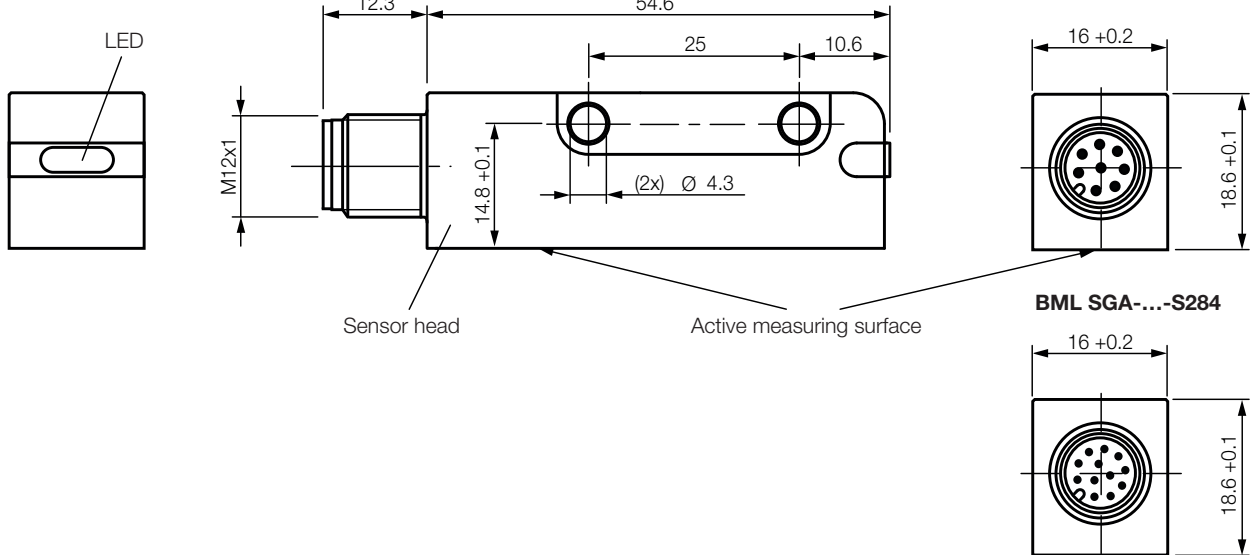
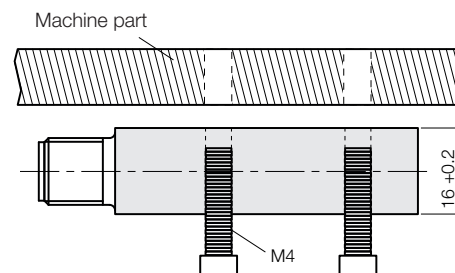
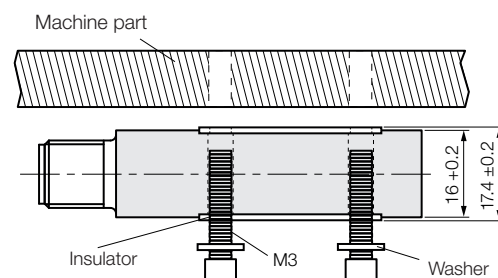

Fig. 3-1: BML SGA-..., construction
Fig. 4-4: Installing sensor head (without insulators)
Fig. 4-5: Installing sensor head with insulators
3. Taking into account the distances and tolerances (see Section 4.3.3 on page 11 and Section 4.3.4 on page 12) install the sensor head with its right or left side on the machine part (see Fig. 3-1 on page 7 and Fig. 4-4 and Fig. 4-5).